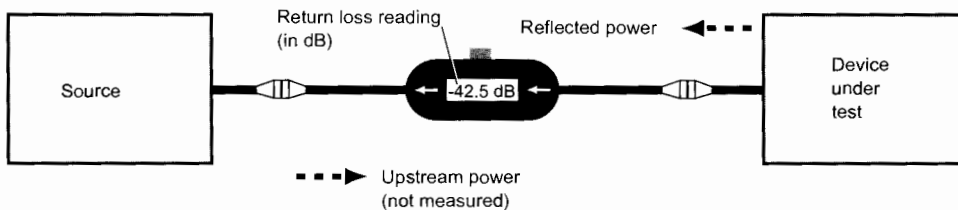

Figure 9: Return loss/back reflection diagrams
1. Install the power monitor in the system or test set with legend arrows pointing back toward the source (see Figure 9).